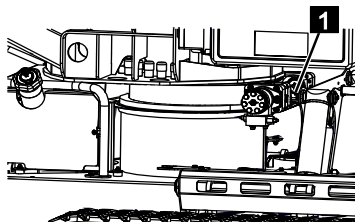

Fig. 261
1. Use a grease gun to inject multi-purpose grease through the rotating assembly's grease nipples (Fig.261/1).